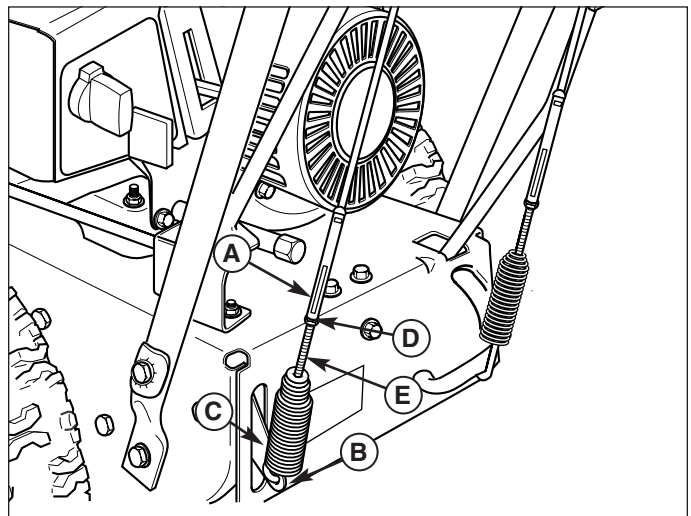

Figure 22. Traction Drive Adjustment (Tube Handle Models)
- To adjust tension on the cable loosen adjustment hex nut (D, Figure 22) by holding the adjusting flats (A). Turn the adjustment screw. The adjustment screw is a phillips screw and the head can be held or turned by inserting a screwdriver through the traction drive clutch cable spring.